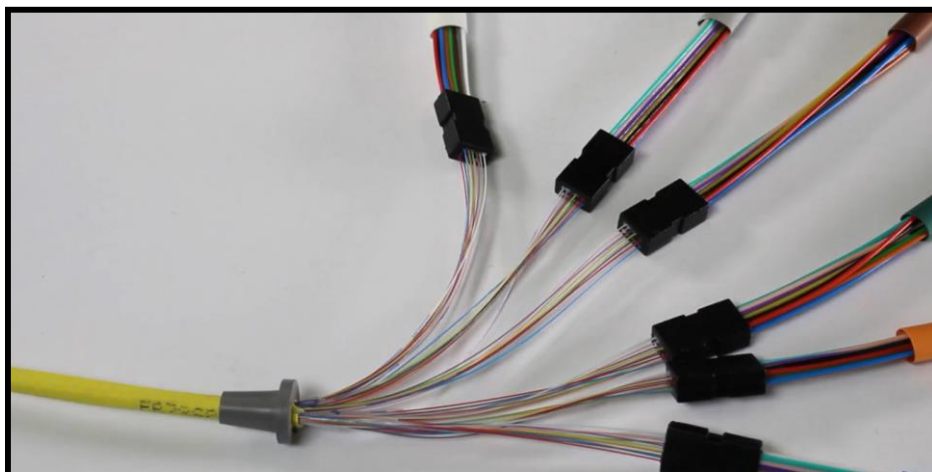

Figure 7
7.3 Select ribbon 1 to begin. Insert all 12 fibers into the Blue Breakout Assembly. Work carefully, comb the fibers to ensure that none are crossed or twisted. (**See Fig. 7**)